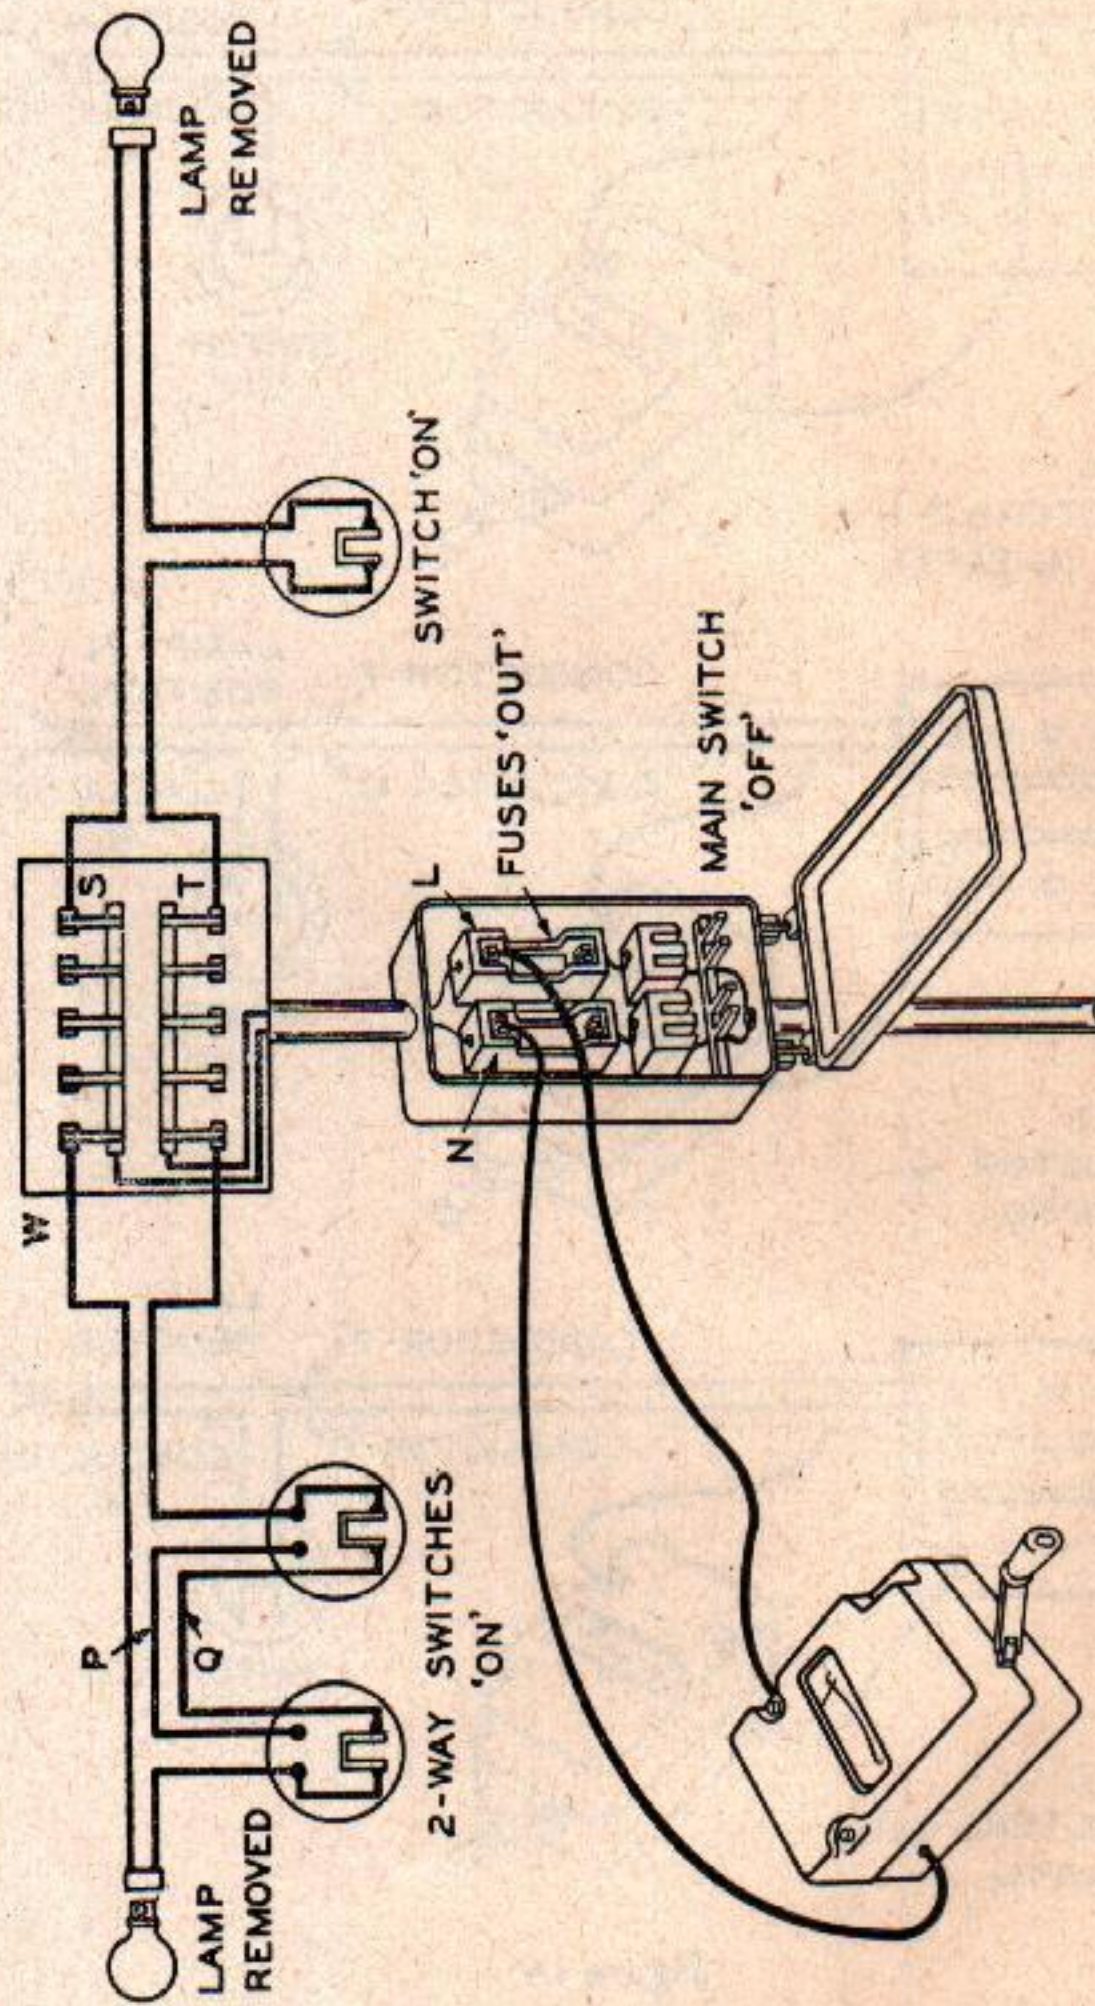

Figure 15
In circuits having 2-way corridor switches, two test readings should be taken, one switch in each pair being changed over before taking the second test, thus ensuring that both inter-switch wires (P and Q, Figure 15) are included in the test.
Connect one terminal of the Megger Insulation Tester to fuse contact L, (Figure 15) and the other to the contact N and make a test.
Two readings should be taken on an installation containing 2-way switches, one with both switches in one "ON" position (Figure 15) and the other with both switches in the alternative "ON" position; this will ensure that both inter-switch wires (P and Q, Figure 15) are included in the test.
* To test whether 2-way switches are in the "ON" position, insert the lamp they control. A Megger Insulation Tester connected between contacts L and N Figure 15 will show zero if the switches are in the "ON" position.